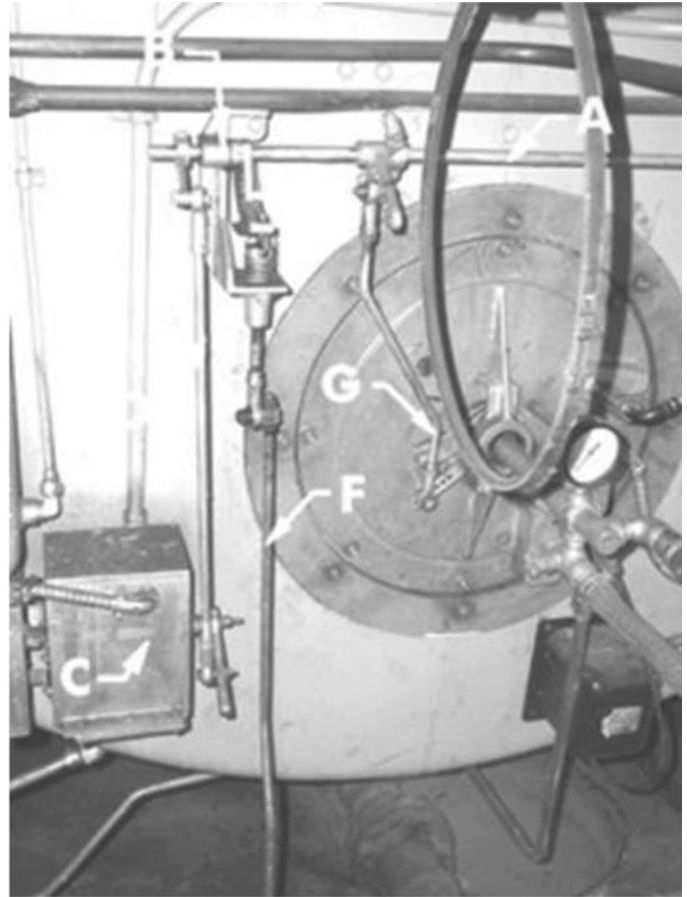
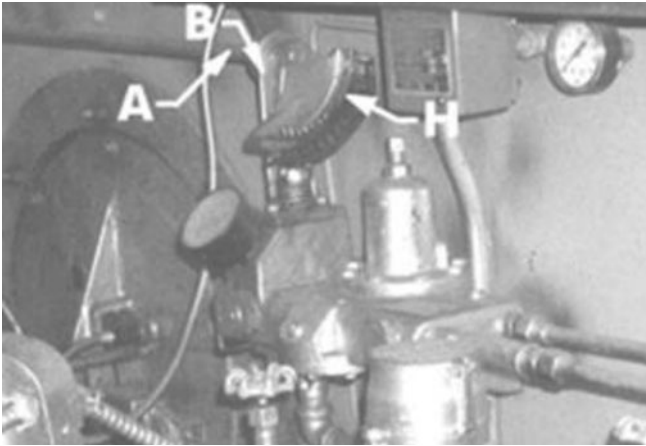
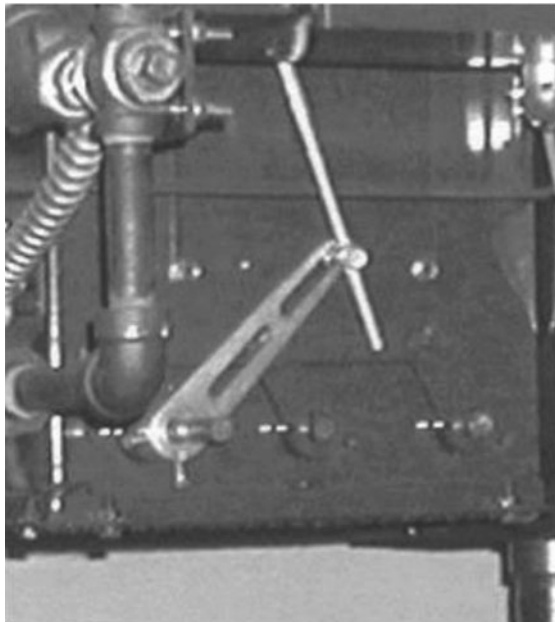
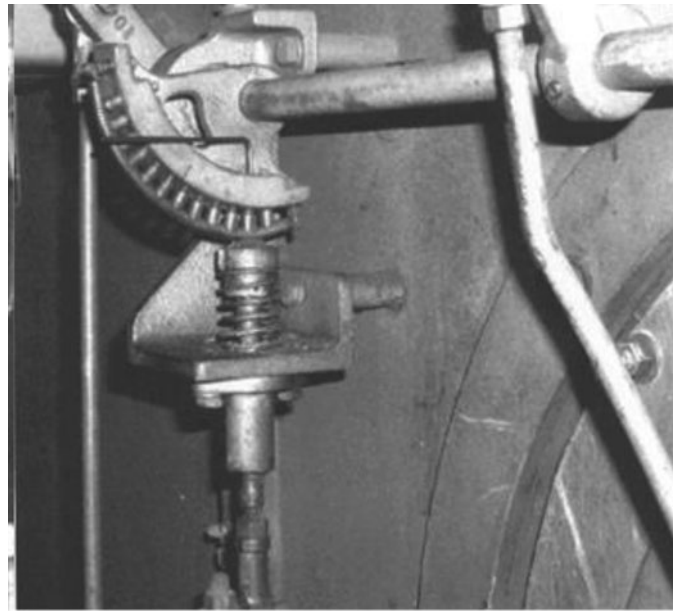

Figure 11-26. Jackshaft.
Figure 11-27. Link to oil valve.
Figure 11-28. Link to gas valve.
Figure 11-29. Link to fan damper.
This is a very common method for firing rate control for boilers equipped with modulating controls. The modulating motor described in the section on steam pressure control, or another form of actuator responding to a device that is attempting to maintain the pressure or temperature at the boiler outlet, is connected to a shaft (A in Figure 11-26) by mechanical linkage. The shaft is supported on the boiler by two or more bearings (B).
As the modulating motor shaft (C) rotates, or the actuator (not shown) changes position, the linkage (D) rotates the shaft. Some burners may not have a single central jackshaft, especially with small burners. The linkage may simply connect one device to the next. Most burners will have one. In Figure 11-26, the gas valve (not shown) is driven by a cam (E) which pushes on linkage (F) and the burner register is controlled by another link (G). Note that the linkage that controls the air, moving either a damper or register, is directly connected to the shaft without any adjustable cam. The jackshaft is connected by additional linkage to the fuel valves. Figure 11-27 shows the extension of the shaft (A), an end bearing (B), and the cam (H), which directly positions the fuel oil flow control valve. On this particular boiler, the cam for the gas valve is used to change the stroke of the linkage (Figure 11-28) for gas. Figure 11-29 shows another arrangement controlling a damper for air flow.
The first step in setting up controls with a jackshaft is to establish the linearity of air flow. That is all that is needed to get linear control. The fuel will be adjusted to match the air flow. With a simple linkage like that shown in Figures 11-26 and 11-29, establishing linearity can be very difficult, but it is an exercise that is essential to get consistent control. After establishing linearity, tuning consists of positioning the controls at each screw on the fuel valve (Figure 11-27 or 11-28) and then adjusting the screw to increase or decrease actual fuel flow at that position, until the desired air to fuel ratio is established.